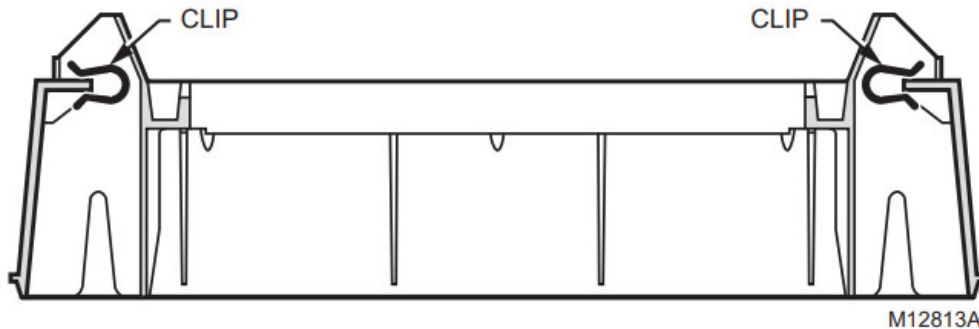

Fig. 4. Position securing clips.
5. Position the securing clips as shown in Fig. 4.